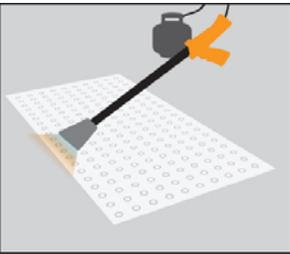

Figure 17: Heat the edges of the domed sheets.
7. **Heat the edges:** After clean-up re-heat the edges of the entire installation using the Flint 2000EX torch. Angle the torch so that the flame is directed away from the domed sheets. (See Figure 17).